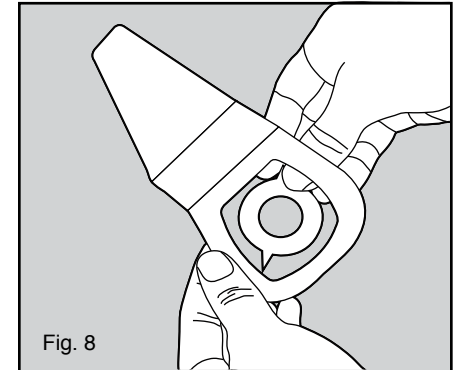

Fig. 8
9. Break away the center portion of the plastic template and discard the piece removed (see figure 8).